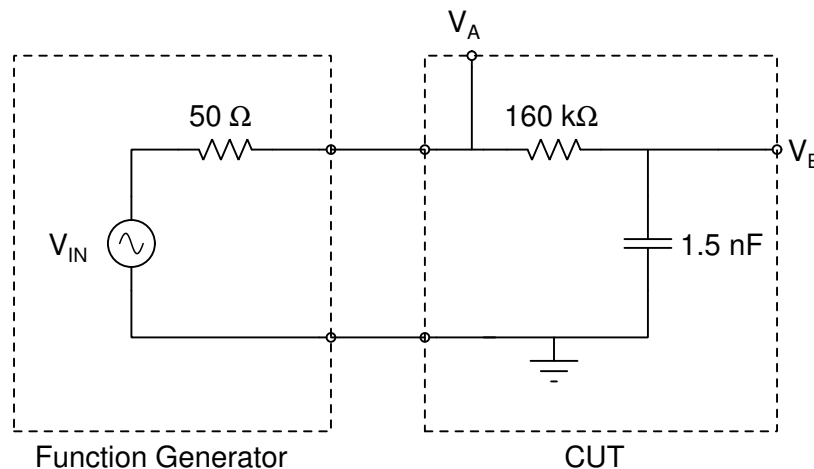

Figure 1: Circuit to be analyzed in Lab #2.
The circuit under test (CUT) is shown in/autoreffig1. Node voltages  $V_A$  and  $V_B$  will be measured using the two input channels on the oscilloscope. As in Lab #1, the input impedance of each channel will influence the circuit behavior. The 1X probe connecting the function generator to the circuit, and the scope probes connecting the CUT to the oscilloscope are not explicitly shown in Figure 1. However, the capacitance of these probes may influence the circuit behavior.
2. For the RC circuit shown in **Figure 1**:
Table 1: Calculated amplitude and phase shift at node  $V_B$  in the circuit of **Figure 1**.
- For the circuit in **Figure 1**, set the peak input voltage set to 1 V, and simulate the node voltages  $V_A$  and  $V_B$ , and the phase shift (PS) in degrees between the two nodes. Record your results in the “Ideal Simulated Circuit” columns in **Table 2**.
- Modify the schematic in **Figure 1** to include the probe capacitances and the input impedances of the two oscilloscope channels at nodes  $V_A$  and  $V_B$ . With the peak input voltage set to 1 V, simulate the node voltages  $V_A$  and  $V_B$ , and the phase shift (PS) in degrees between the two nodes. Record your results in the “Complete Simulated Circuit” columns in **Table 2**.
2. Measure the values for each component needed in the circuit shown in **Figure 1** using the LCR meter and a DVM. When measuring the capacitance, measure both C and DF at frequencies of 1 kHz and 10 kHz. Calculate the ESR of the capacitor at these frequencies. Can the ESR be ignored? Explain your reasoning in your notebook.
3. Build the circuit shown in **Figure 1**: